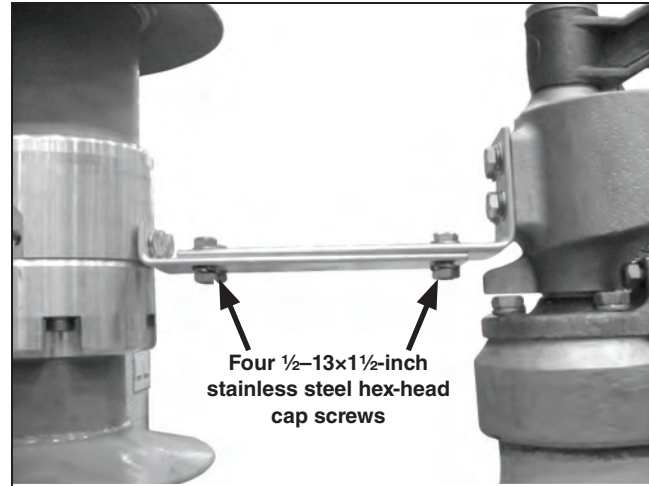

Figure 24. Attach the interrupter bus to the disconnect bus.
STEP 10. Attach the interrupter bus to the disconnect bus using four $\frac{1}{2}$ -13 \times $1\frac{1}{2}$ -inch hex-head stainless steel cap screws, Belleville washers, and hex nuts furnished. See Figure 24.